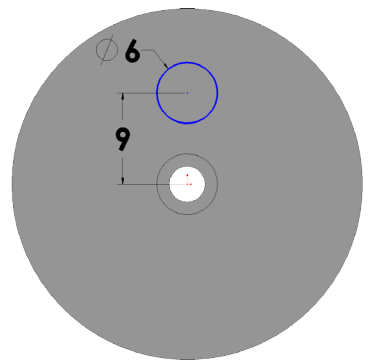

**Fig. 12**
Step 1. Click the **side face of wheel** and click **Sketch**  on the Context toolbar, **Fig. 12**.